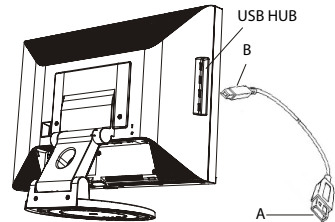

Figure 1-5
3. Connect USB compliant products directly to the USB hub on the monitor. (See Fig 1-5)